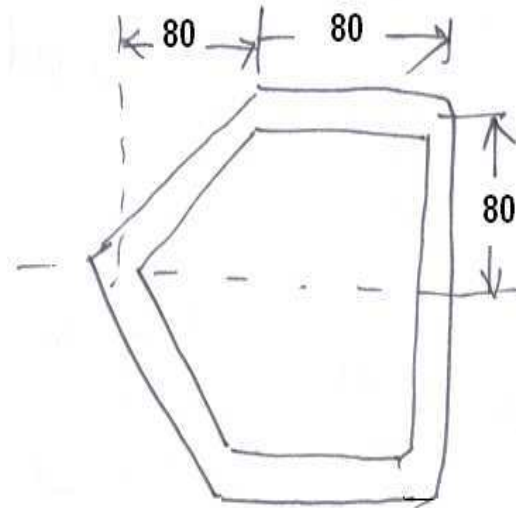

Figure 3:
5.  $t=3\text{mm}$  uniform locate the shear centre for the aircraft box beam. Shown in figure 3. [16]